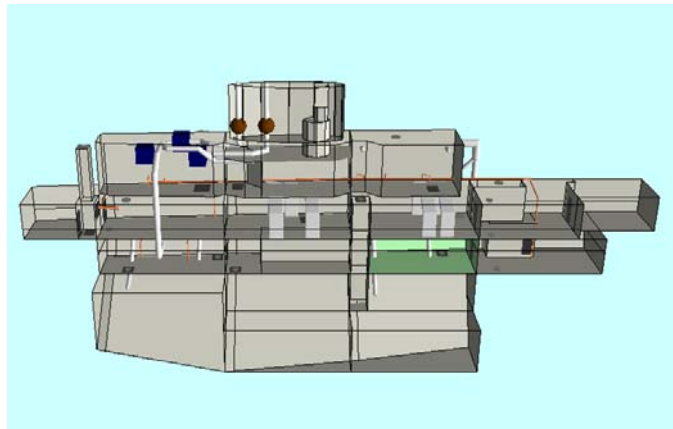
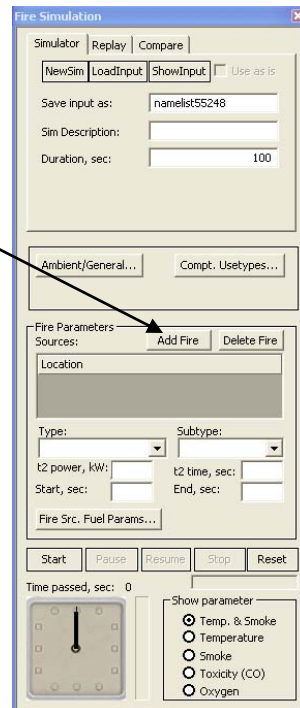
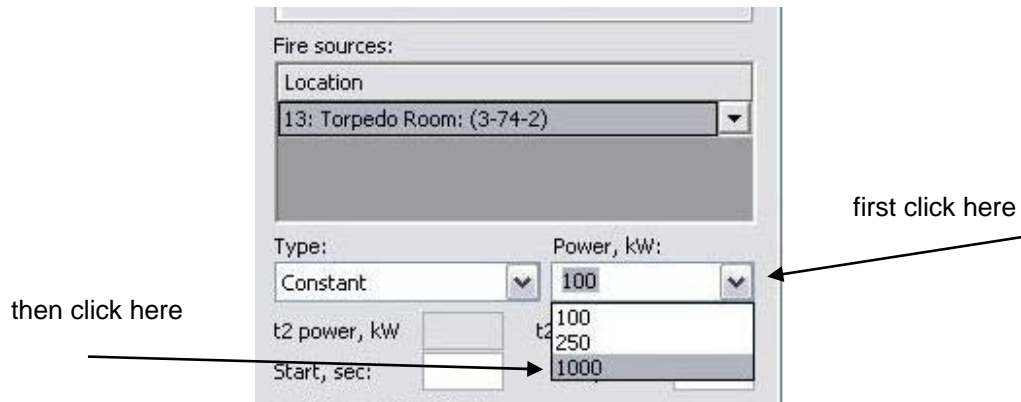

Figure 3-5 Selected compartment (torpedo room) is highlighted in green color
Figure 3-6 'Add Fire' button on Fire Simulation popup
Figure 3-7 Power settings for a constant type fire
Step 3: To add a fire source, first select a compartment from the floor plan or 3D view by clicking the left mouse button on it. For this test, we will use the compartment number “13: torpedo room (3-74-2)” as shown in Figure 3-5. Once the compartment is selected, it is highlighted in green color (Figure 3-5). Then click the *AddFire* button on the Fire Simulation popup (Figure 3-6) and the Location box will contain the added fire source (Figure 3-7). Additional fire sources can be added similarly but for this test, we will use only one.
Step 4: Change the Power to 1000 (Figure 3-7)